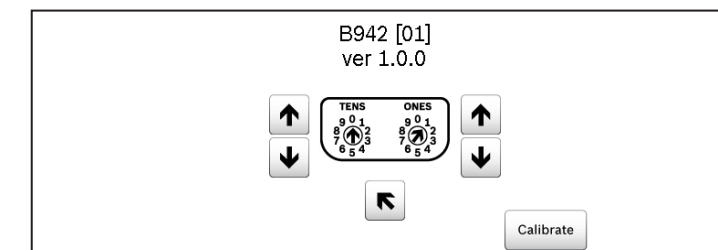

Figure 4.1: Keypad addressing page
*Figure 4.1* shows the address switch setting for address 1.